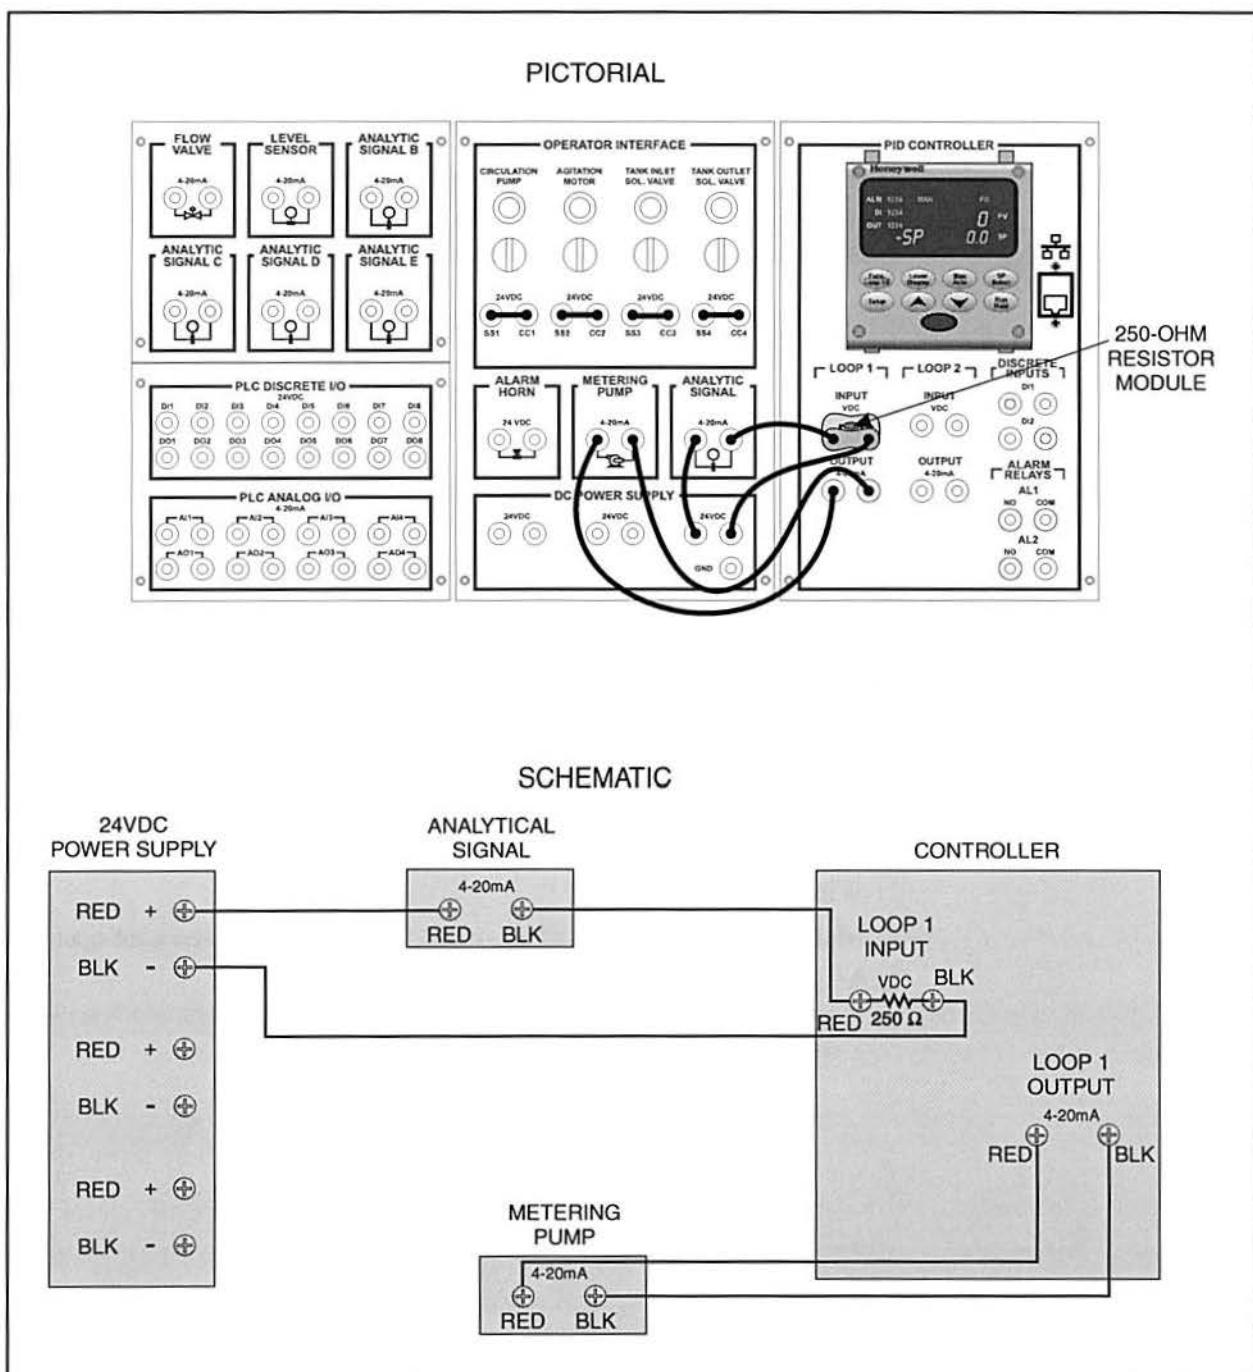

Figure 76. Continuous pH Control Circuit
- 2. Make sure the circuit shown in figure 76 is still connected. If not, connect it now.